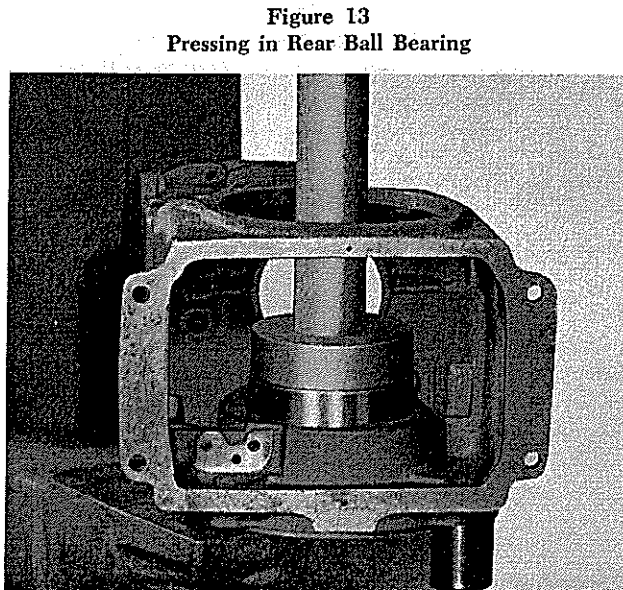

Figure 13
- b. The ball bearing, with shielded side toward inside of cylinder block, is then pressed into the block. (Figure 13).